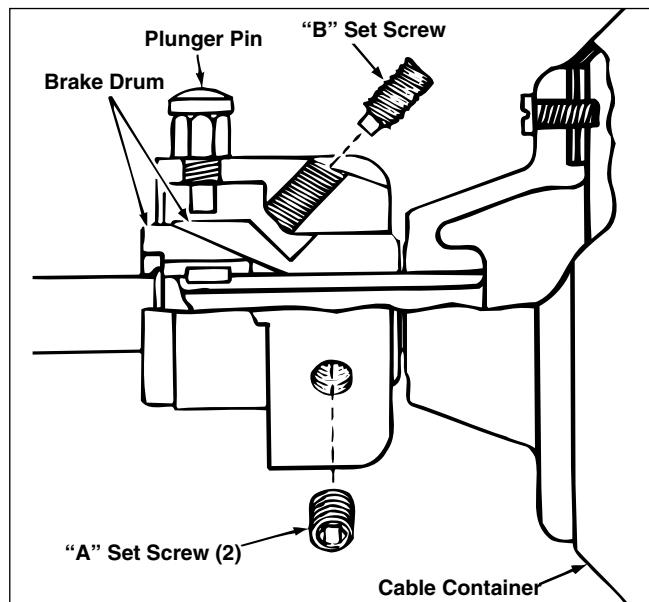

Figure 9 – Cable Adapter
4. Slightly loosen two set screws "A" using a $\frac{5}{32}$ " hex wrench (Figure 9).
5. Turn set screw "B" clockwise $\frac{1}{4}$ turn (Figure 9).